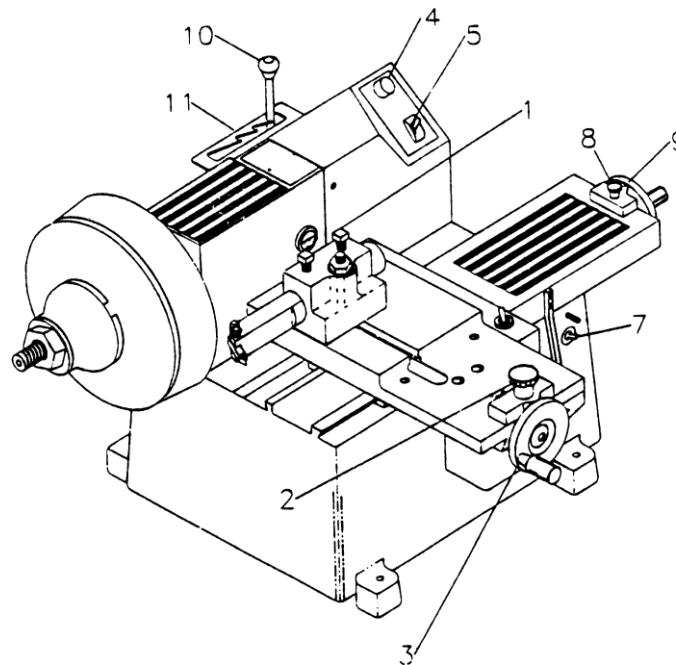

Fig. 4 Lathe controls for refinishing drums
This machine is equipped with variable spindle speeds. There are four speed selections – 85/110/140/185 RPM. The speed change lever (10, figure 4) is located at the rear of the machine behind the control panel. The lever rides in a speed selector plate (11, figure 4) that is notched for each speed. High speed (185) is all the way to the right and low speed (85) is on the left. To change speeds, position lever in the notch labeled with the desired speed.
..loosen the boring bar lock bolts (1, figure 4) and both cross-slide and main-slide carriage feed locking knobs (2 and 8, figure 4)
..slide the boring bar inward or outward and turn the cross-slide and main-slide carriage feed handwheels (3 and 9, figure 4) to position the cutting tool bit over the braking surface of the drum.
NOTE: Be sure the cutting tool will travel over the full surface of the drum before the automatic feed switch (7, figure 4) shuts off and stops the travel of the carriage.
..tighten the drum turning attachment center post locking nut (10, figure 4). Then tighten the two boring bar lock bolts.
..turn the handwheel (3,figure 4) counter-clockwise until the cutting tool touches the drum surface
..turn the main-slide carriage feed handwheel (9,figure 4) and move the carriage in until the cutting tool bit is just inside the undercut of the drum.
..turn variable speed feed control (4, figure 4) to a desired setting. **NOTE:** The carriage feed speed ranges from 0" to .008" per revolution. Do not try to cut too much at one time. Smaller cuts (low carriage feed speed) produce a finer finish.
..with depth of cut set, tighten the carriage feed locking knob (2, figure 4). After initial setup, tighten all locks and turn the automatic carriage feed switch "ON" (7, figure 4) **NOTE:** The carriage feed will stop automatically when the cut is complete. The cutting tool boring bar and cutting tool bit feeds from inside of the drum outward.
..if a second cut is necessary, loosen the carriage feed locking knobs (2 and 8, figure 4) and repeat above procedure